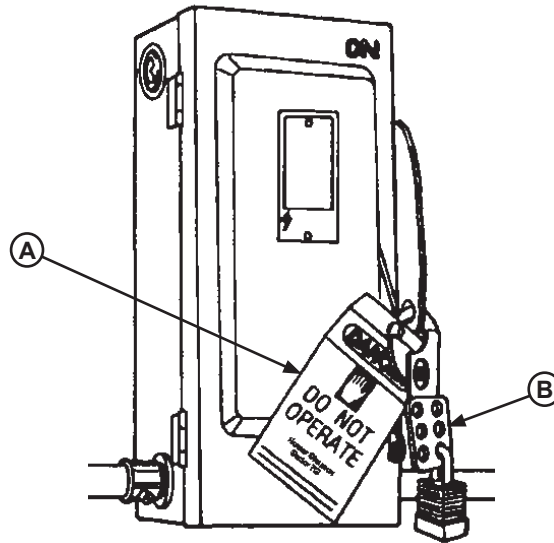

Figure 20
When working with electrical or electronic controls, make sure that the power source has been tagged (A) and locked out (B) according to OSHA regulations* and approved local electrical codes (see Figure 20).